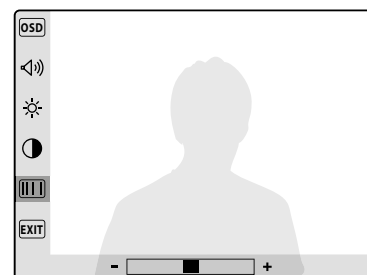

Fig. 21
- The picture hue (8 levels, **Fig. 21**);